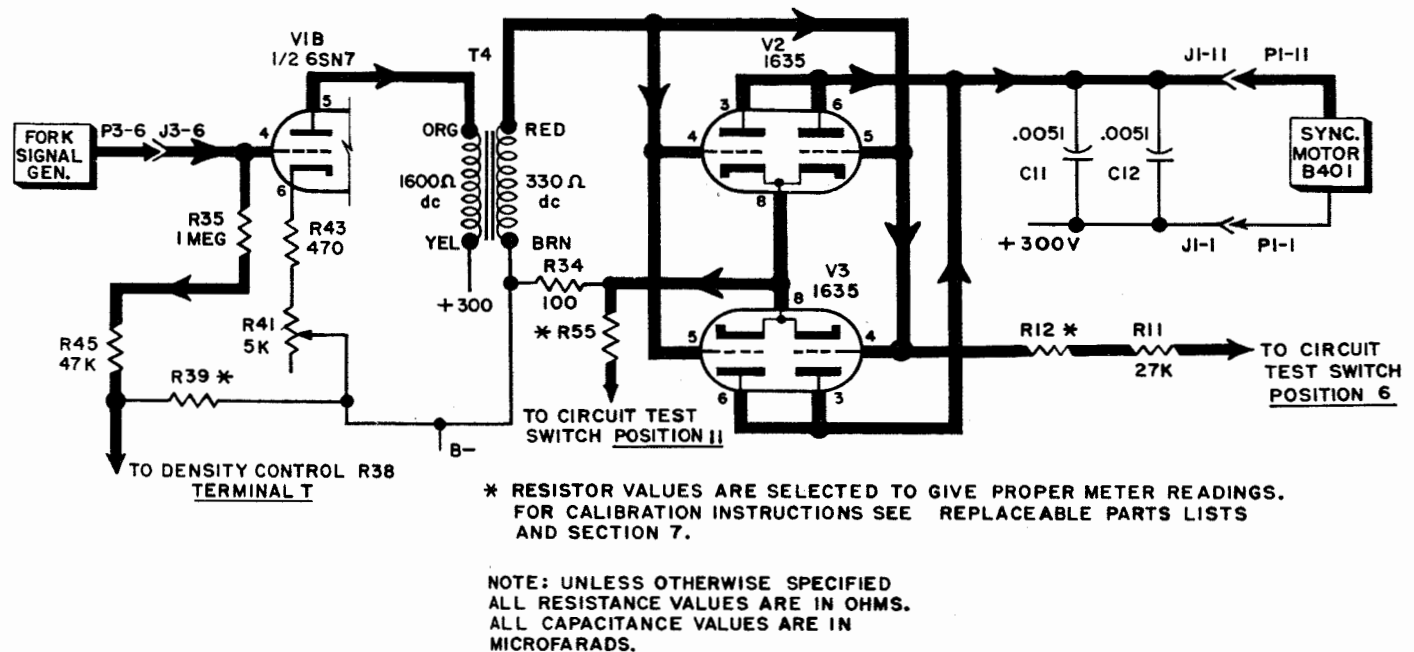

Figure 2-9. Schematic Diagram of Motor Amplifier
(1) MOTOR AMPLIFIER.—(See *schematic, figure 2-9.*) The motor amplifier comprises two stages; V1B, which serves as a buffer stage to isolate the fork oscillator from the motor power circuits and provides sufficient amplification to drive the power stage; and V2 and V3, the motor amplifier tubes, which provide the current to operate the synchronous motor.